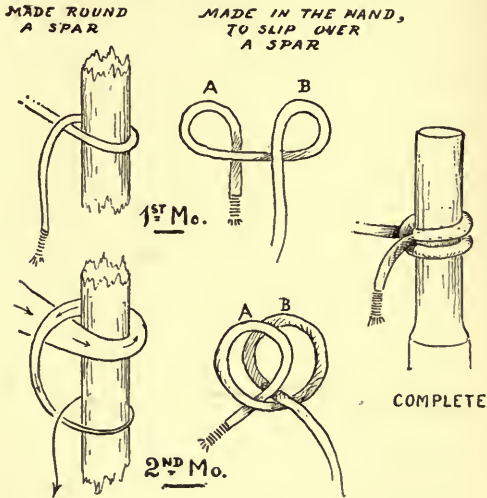

FIG. 7.—CLOVE HITCH.
4. *Clove hitch*.—One of the simplest and yet most useful knots ever invented. It is one by which a weight can be hung to a smooth mast, and is generally used where a rope is passed round any spar to be hauled on. It may be employed, however, in place of the half-hitch and often in place of the bend, as for fastening a jib to its stay, etc. The clove hitch may be made in two ways, that is, either round a spar, or in the hand and then slipped over the spar. (See fig. 7, page 144.)